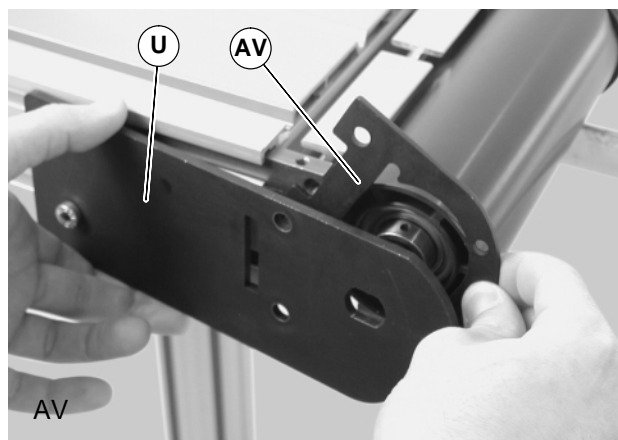

Figure 35
3. Pull back the outer headplate (U of Figure 35) and remove the inner spacer (AV).